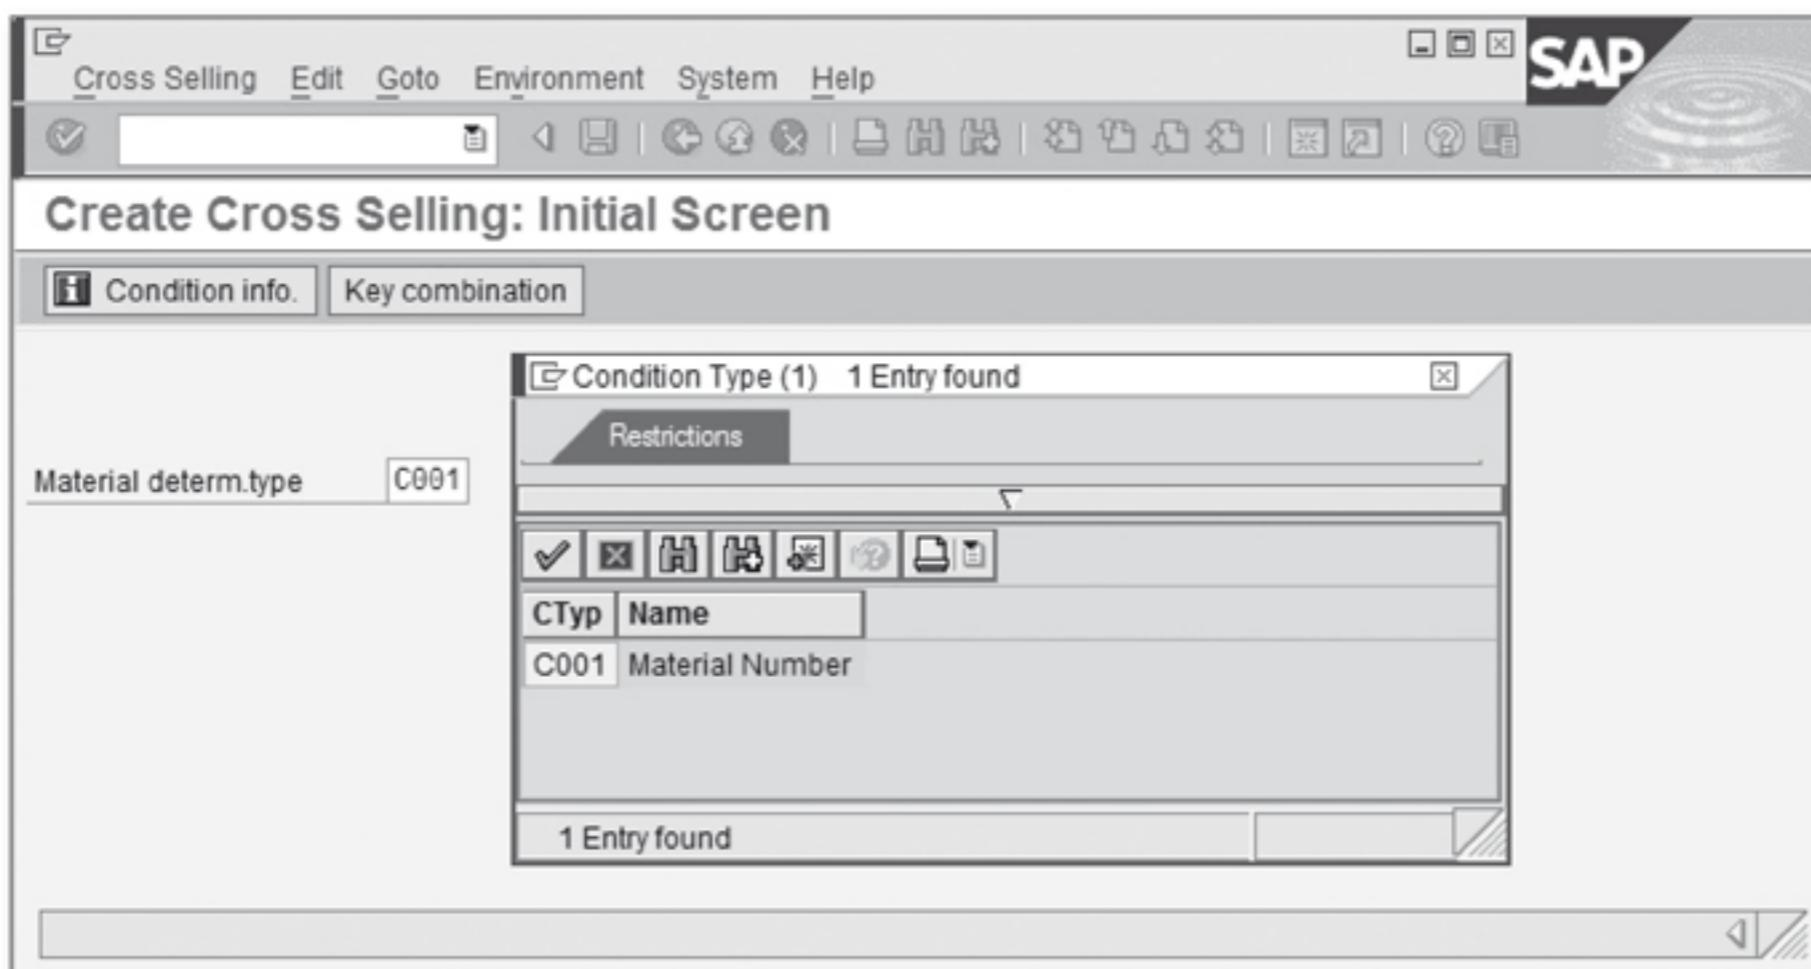

Figure 2.13 Create Cross Selling Initial Screen
2. On the initial screen, select condition type C001 (Ctyp) (Figure 2.13). You should note, however, that this is in the standard system. It may vary in your system. Press **Enter**.